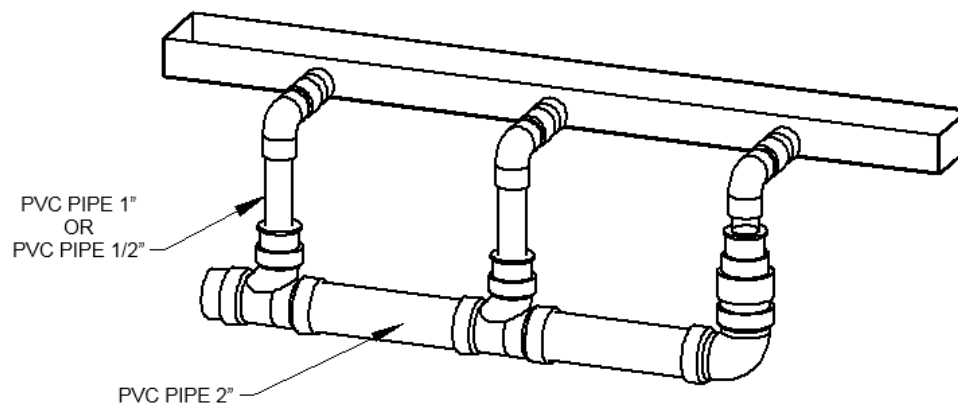

Figure 5:
- Connect tubing or pipe to Arche-Duct drain connections (Figure 5).